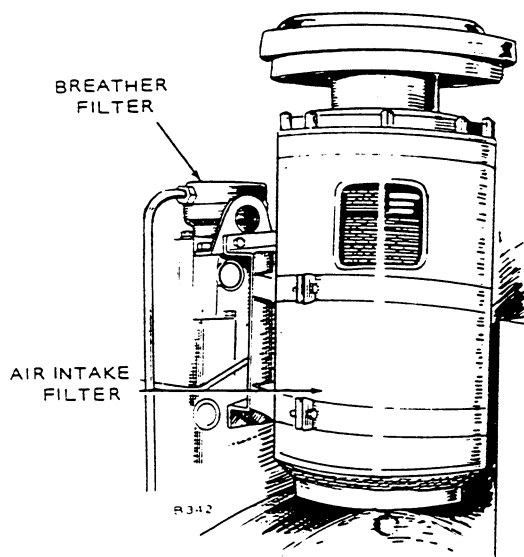

FIGURE 11. AIR CLEANER
1. Loosen the eight attaching bolts and lift off the air cleaner head (see Figure 11).